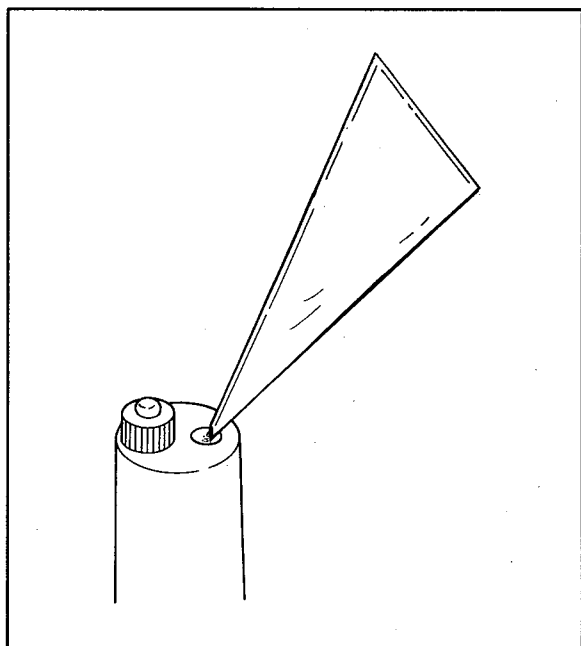

Figure 3-2. KCl Powder Pouring.
- (2) Remove the sensor from the holder and wipe off the stains from the sensor tip.
- (3) Remove the liquid junction but leave the glass electrode installed firmly.
- (4) Discharge the sensor body internal solution from the liquid junction mounting hole.
- (5) Clean the "internal solution compartment". Inject about 10 mL of KCl solution (or pure water) into the liquid junction mounting hole and thoroughly shake the sensor body. Discharge the liquid.
- (6) Pour approximately 10 to 12 g KCl powder into the "internal solution compartment". When using KCl powder from the internal solution set, use one bag of the powder. Cut off the bag tip with scissors and pour the KCl powder into the "internal solution compartment" as shown in Figure 3-2. If the KCl powder in the bag have hardened, crumple the bag thoroughly.